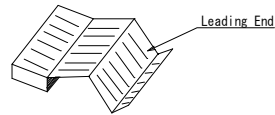

Fig. 6
1) Put the recording paper into the cartridge with the printed surface out, from the leading end as shown in Fig. 6.